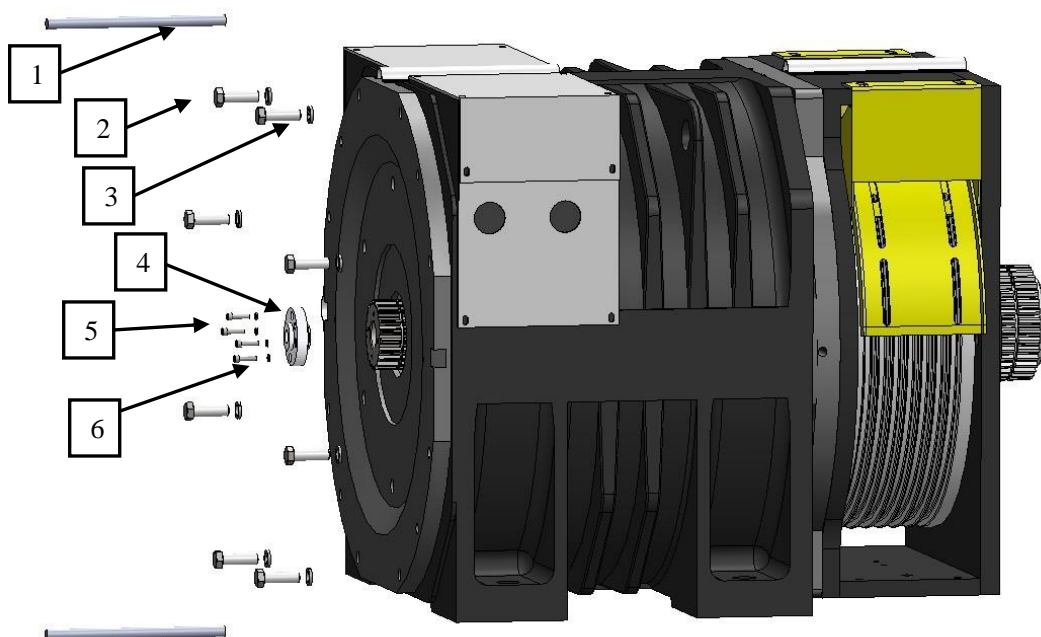

Figure 71: Encoder shaft installation
- Take off the threaded rod. Tighten the bolts M12x40 with lock washer 12 (8 pieces), install encoder shaft (align the mark) and tighten screws M5x16 (4 pieces) (coat with Loctite) with lock washers 5. Figure 71 and Table 10.